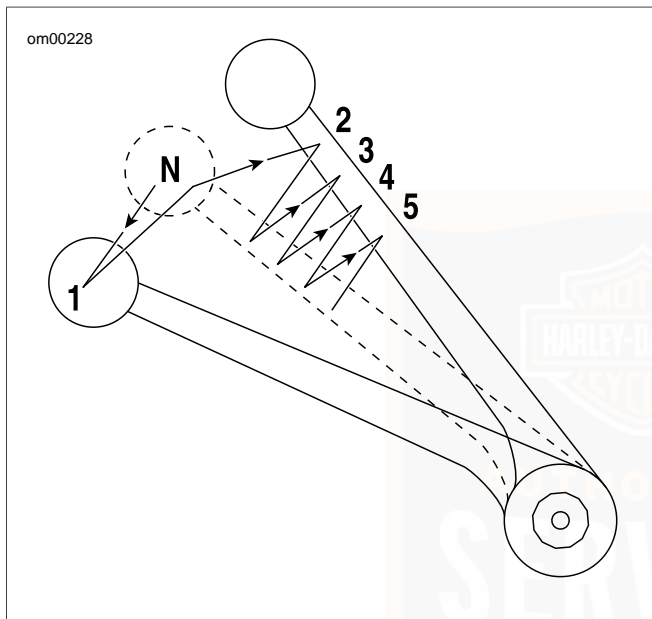

Figure 23. Gear Shift Lever (Upshift): VRSC Models
3. See Figure 23. Lift the gear shift lever up to the end of its travel and release.